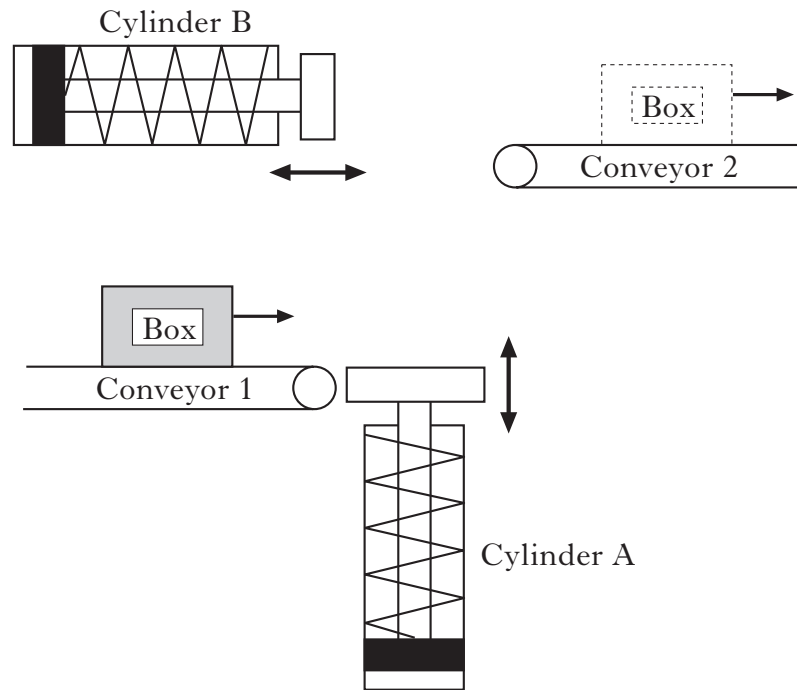

Figure Q8
8. Figure Q8 illustrates a box transfer system. It uses two pneumatic cylinders, A and B, to transfer boxes from the level of Conveyor 1 to the level of Conveyor 2.
- (a) Sketch a flowchart which shows the conditions of each of the cylinders for the transfer of one box from Conveyor 1 to Conveyor 2. Begin with Cylinder A being supplied with a box and each cylinder in the position shown in Figure Q8. In your flowchart simply state whether the appropriate cylinder is extended or retracted.